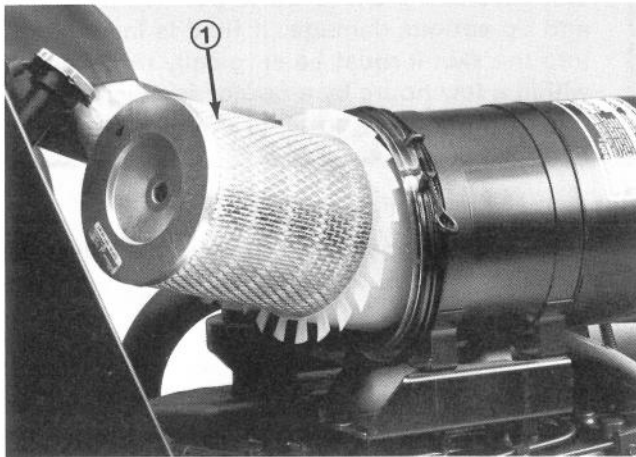

Figure 42
3. Remove wing nut w/gasket and slide filter element out of air cleaner body (Fig. 42).